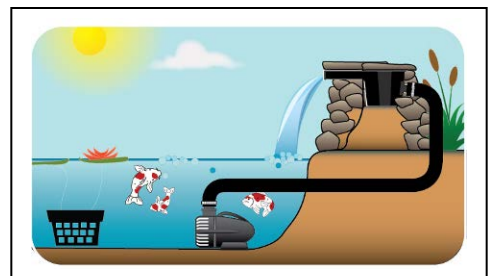

Fig. 14
14. Connect tubing to the outlet adapter, then use hose clamp hold it tight. Connect other side to your pump, and use hose clamp hold it tight too. Carefully cover the waterfall spillway and tubing with natural material for a professional look. Fig. 14